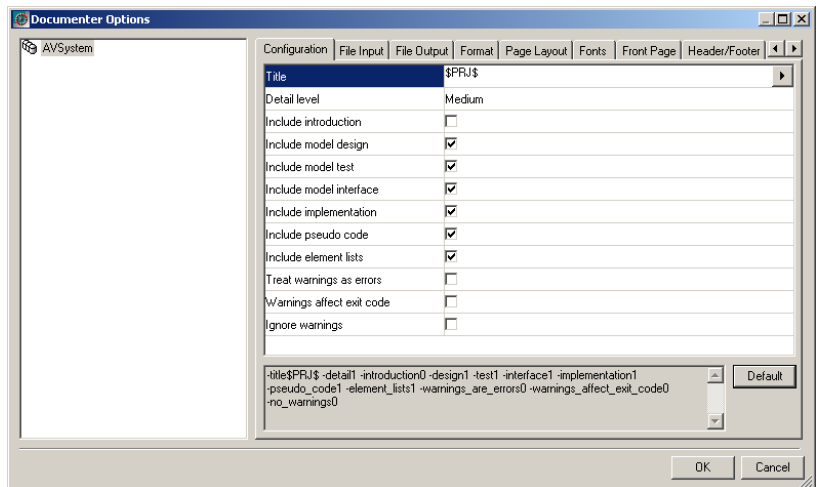

Figure 183: Documenter Options dialog box, Configuration tab
- 3 Open the pop-up menu, and choose Options>Documentation. The Documenter Options dialog box is displayed. Selected values are shown as command line options in the pane below the option list. See *Figure 183*, page 262.
- 1 Open the Documenter Options dialog box (as described in *General*, page 261), and click the Configuration tab. See *Figure 183*, page 262.